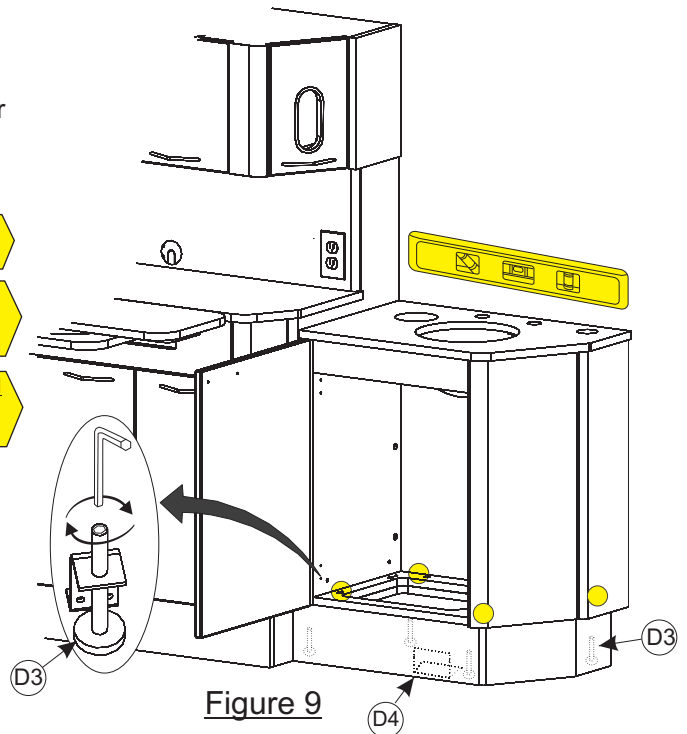

Figure 9
Adjust the (4) Leveling Feet (D3) to level the cabinet using a 5mm allen wrench. Each Leveling Foot has access to the allen head through a hole in the bottom cabinet. (see Figure 9)
Mount the Floor Mounting Bracket (D4) to the floor using proper fasteners for the floor being mounted to (see Figure 9).